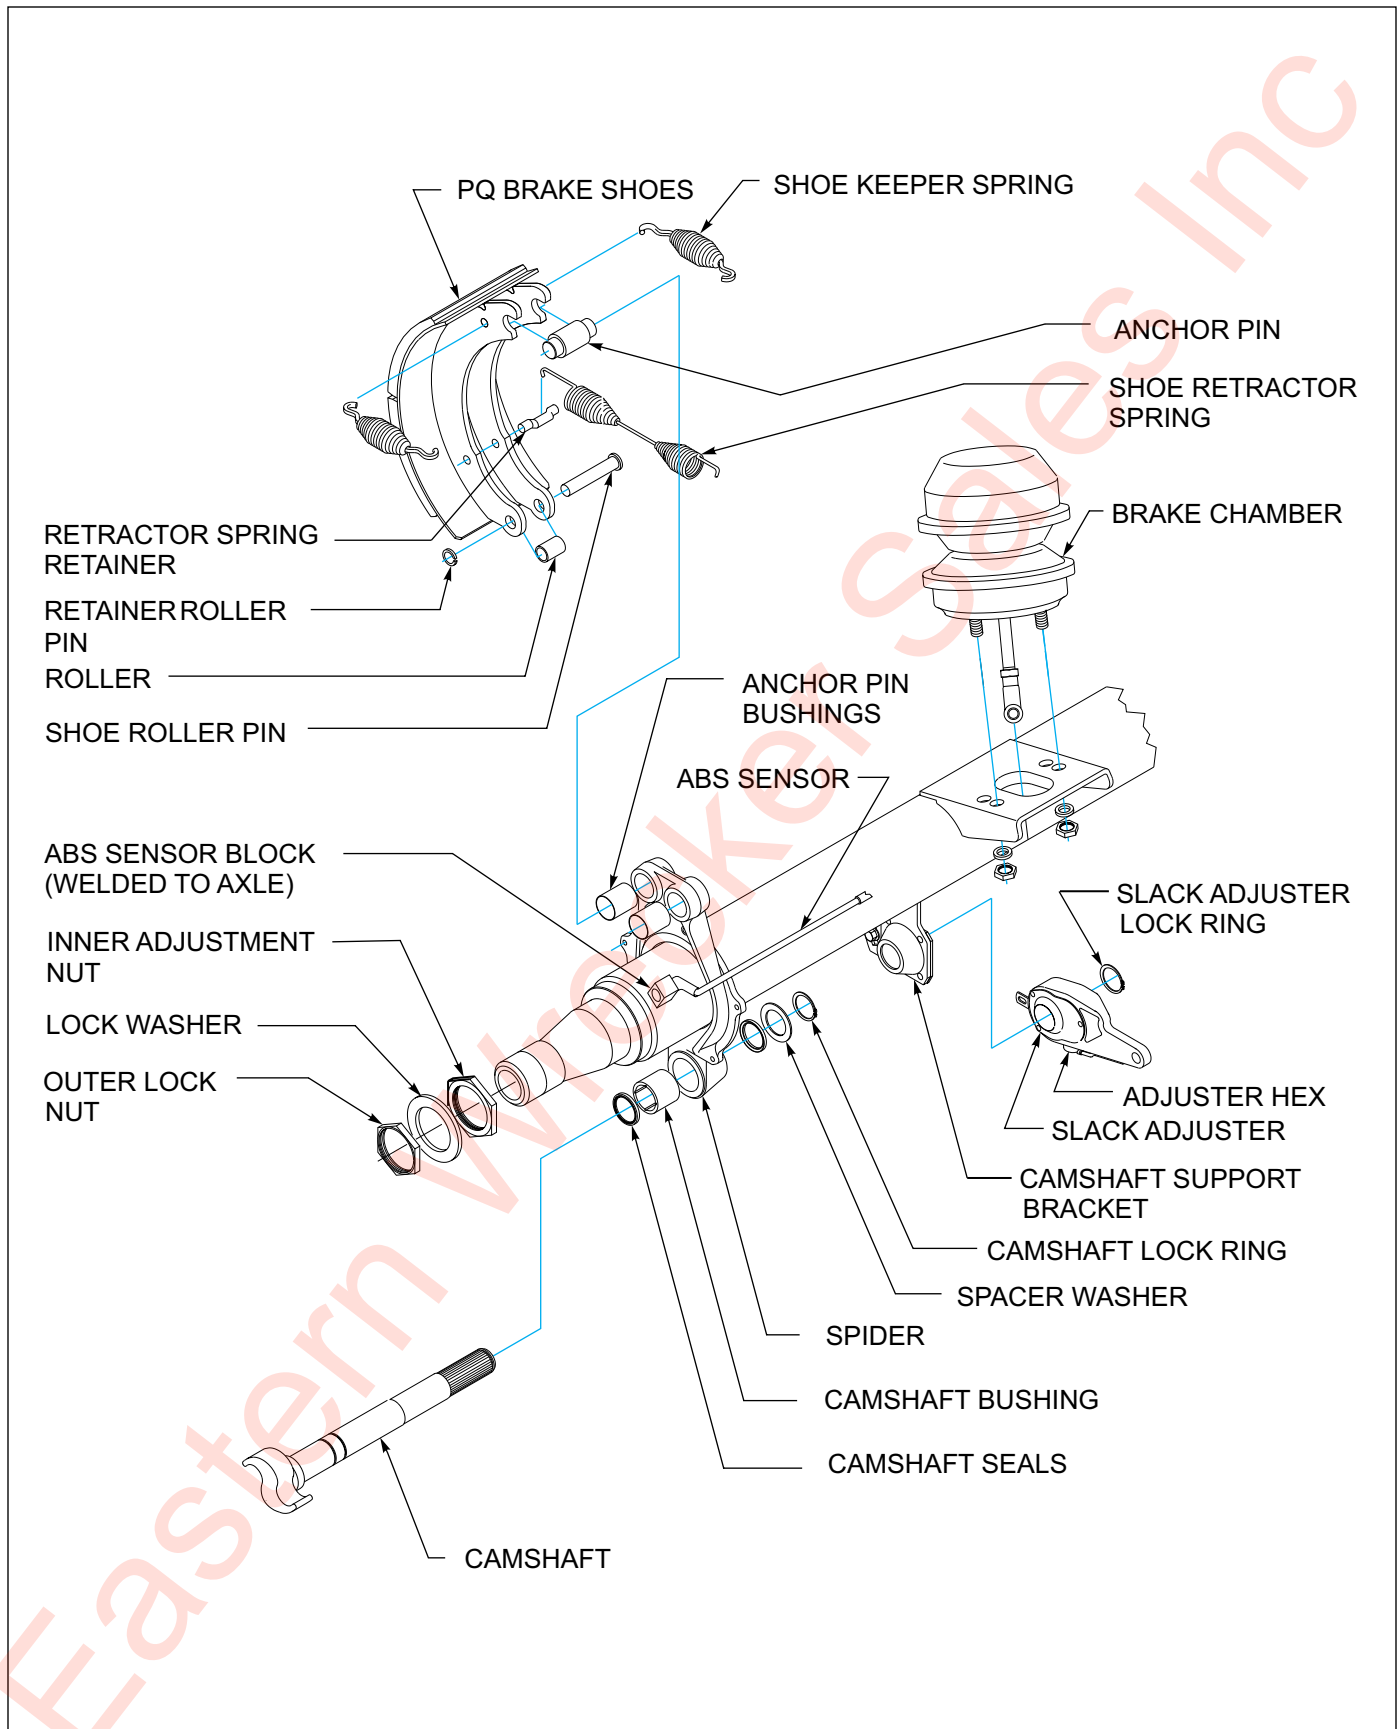

Figure 4-11: Axle and Brake Assembly
1. Release brakes and back off slack adjuster (See Figure 4-11.)
1. Install new anchor pin bushings, camshaft bushing and camshaft seals into the spider (See Figure 4-11.)